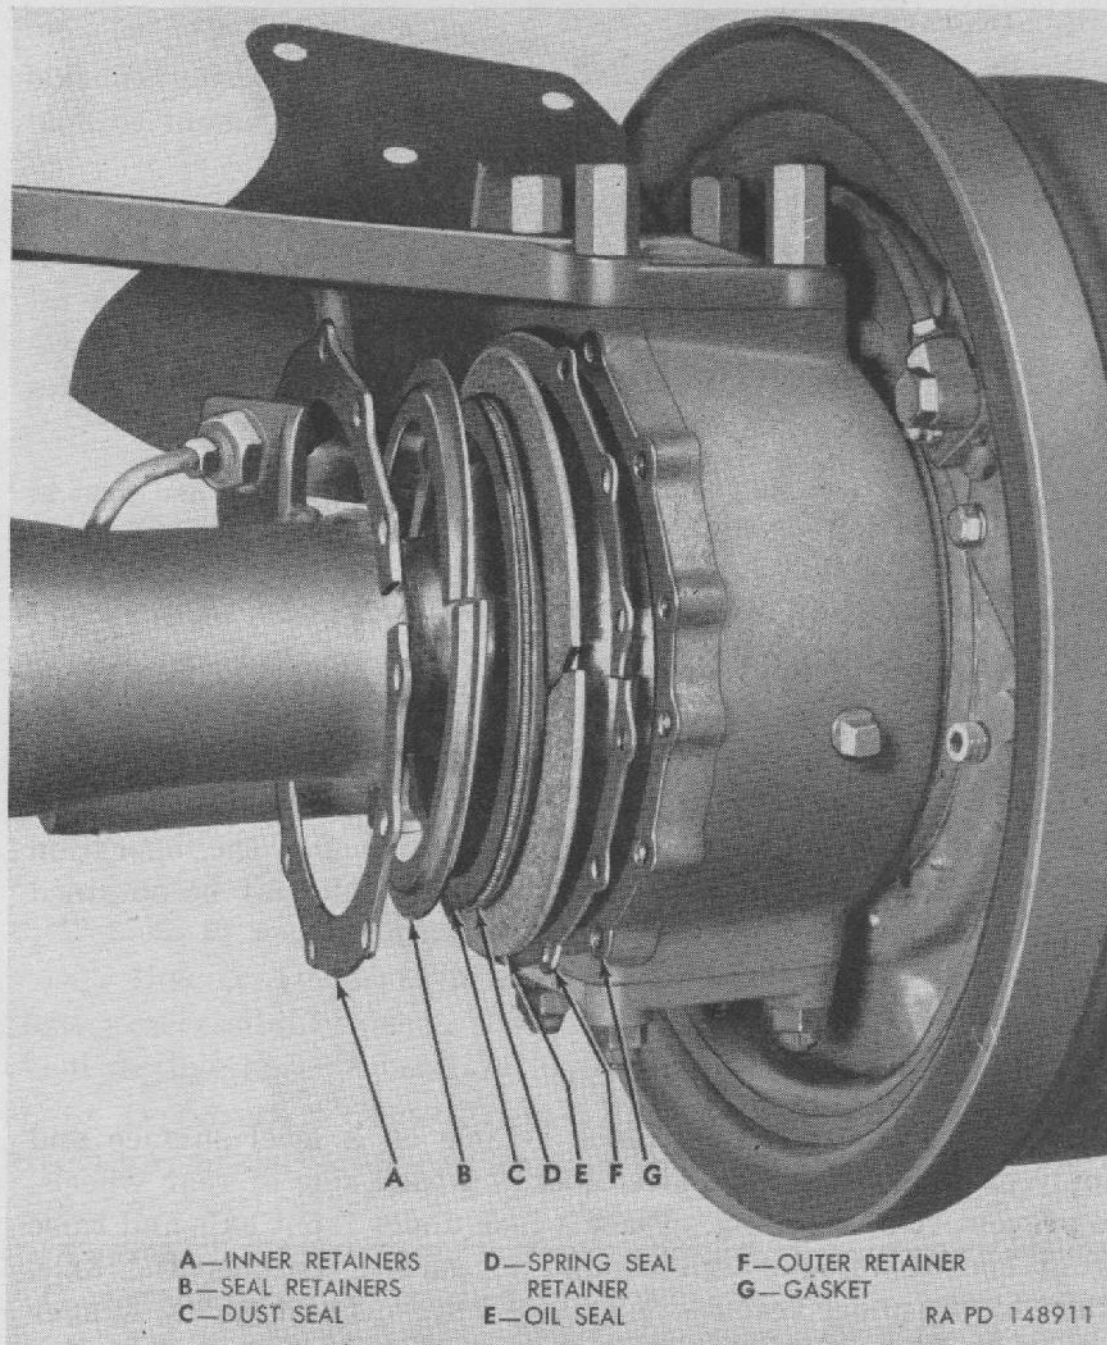

Figure 119. Housing outer seal components.
a. GENERAL. Axle housing outer end seals are installed on inner side of each steering knuckle support around spherical surface of axle housing outer end. Each assembly consists of a gasket, outer retainer, oil seal (felt), spring seal retainer, dust seal, seal retainer, and inner retainers (fig. 119). The oil seal is composition of felt and neoprene to prevent leakage of lubricant. The dust seal is spring loaded and bears tightly against spherical surface. When seals are in good condition and properly installed, lubricant leakage is prevented and entrance of dirt, water, or other contaminants is prevented.
- (1) *Remove inner retainers.* Remove 12 caps and screws and lock washers attaching two inner retainers, seal retainer, and outer retainer to steering knuckle support (fig. 119).
- (2) *Remove oil seals* (fig. 119). Oil seal (felt) is split and can be replaced with new part. Dust seal (neoprene) and spring seal retainer are not split and cannot be replaced at this time. Report worn or damaged conditions to ordnance maintenance personnel.
- (1) *Install gasket.* Install new gasket to steering knuckle support, using small quantity of gasket cement to hold gasket in place.
- (2) *Install seal and retainers.* Install remaining parts in order illustrated in figure 119 as follows: Outer retainer, oil seal (felt), dust seal and spring, seal retainer, and two inner retainers. When the above parts are properly positioned, secure with 12 cap screws and lock washers.